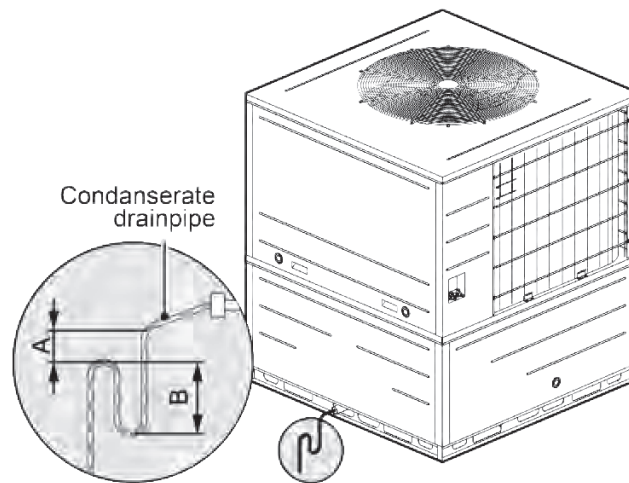

Fig.11
- (1) Condensate drain side is pitched lower than the opposite side. (see Fig. 11)
- (2) When shipped out from factory, both the condensate outlets are blocked by rubber plug. So before installation, please take the rubber plug out.
- (3) Condensate removal is performed by attaching a PVC pipe to the drain pan and terminated in accordance with local or state Plumbing/HVAC codes.
- (4) The condensate pipe shall be installed with an inclining angel of $5\sim 10^{\circ}$, so as to facilitate the drainage of condensate.
- (5) As the inside of the unit is in the negative pressure status, it is required to set up a backwater elbow. The requirements is: $A=B\geq P/10+20(\text{mm})$
- (6) P is the absolute pressure inside the unit. The unit of the pressure is Pa.
- (7) After the electrical installation is completed, carry out the testing of the drainage system.
- (8) It is not allowed to connect the condensate drain pipe into waste pipe or other pipelines which are likely to produce corrosive or peculiar smell to prevent the smell from entering indoors or corrupt the unit.
- (9) It is not allowed to connect the condensate drain pipe into rain pipe to prevent rain water from pouring in and cause property loss or personal injury.
- (10) Condensate drain pipe should be connected into special drain system for air conditioner.
- (11) Drain hose is in negative pressure state: $A = B\geq P/10+13/16 "$ (20mm).